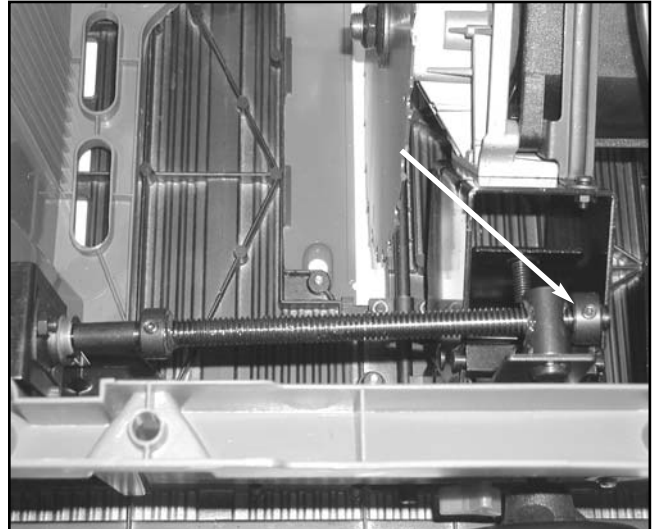

Figure 18. Zero degree positive stop adjustment.
1. Loosen the setscrew as shown in **Figure 18**.